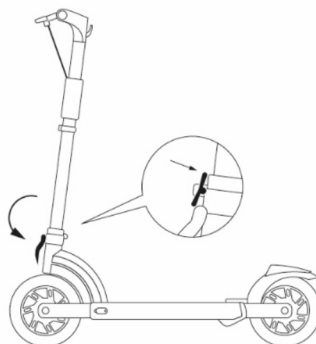

Figure 47 - Lever release
2. Press the safety button (**See point 9 Table 1 - Detailed view of scooter components and Figure 2 - Scooter components**), and simultaneously release the locking lever (**See Figure 47 - Lever release**);